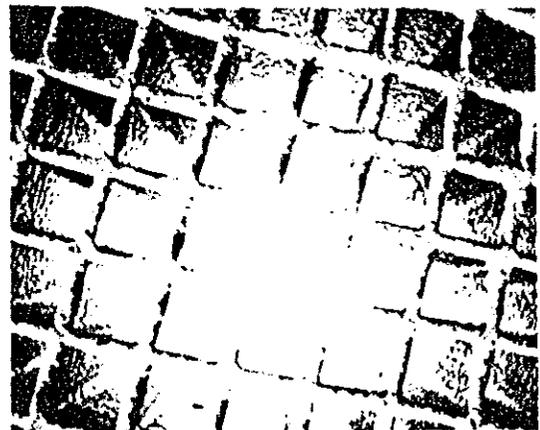

Figure 25
•**Healthy Catalyst (See Figure 25)**